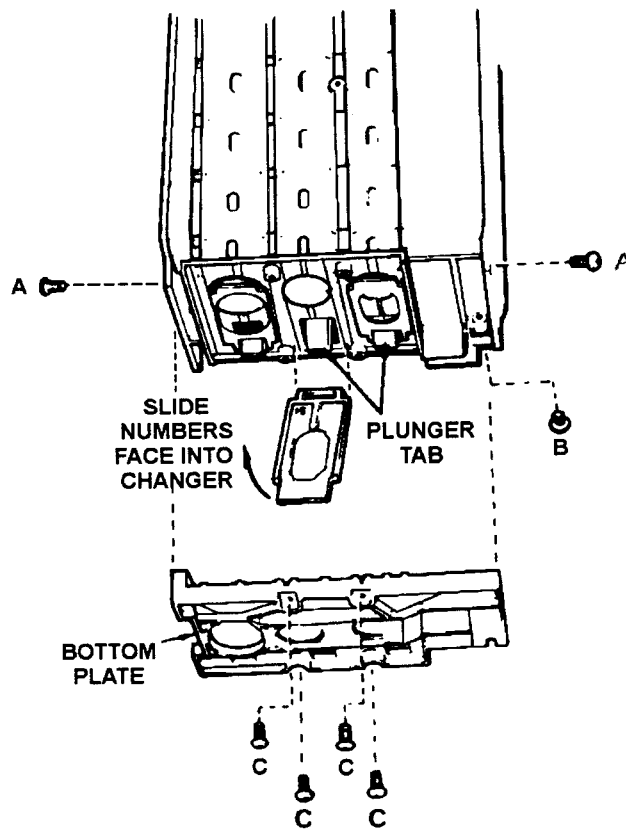

Figure 12: Clearing the Dispenser Slides
To clean the Dispenser Slides, detach the Bottom Plate by removing the seven Phillips head screws - one screw on each side (A), one recessed screw on the back (B), and four screws on the bottom of the changer (C) (Figure 12).